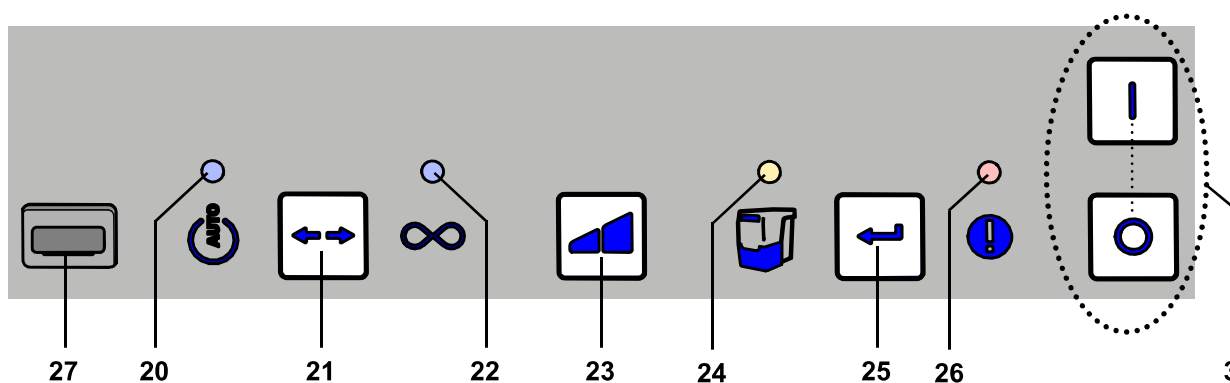

Fig. 2
- ⇒ Switch the device OFF at the On / Off switch (3, Fig. 2).
The extractor unit is operated via the buttons on the key-pad (Fig. 2).